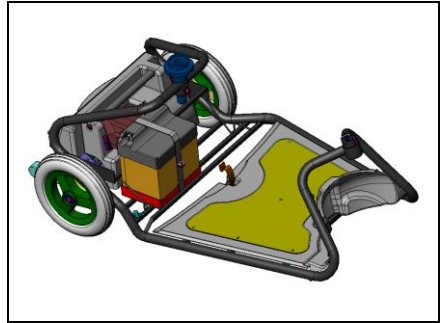

Figure 21
- d. Remove each battery by pulling it with it's handle . (See Figure 21).